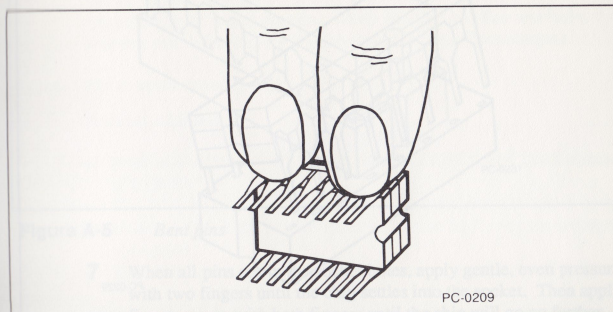

Figure A-3 Aligning the chip's pins
- 3 Before you install the chip, verify that its pins match the holes in the socket. If they don't, align the pins by laying the chip on its side on a table (or other flat surface) and gently press the top edge of the chip (not the pins) as shown in Figure A-3. Repeat for the other row of pins.